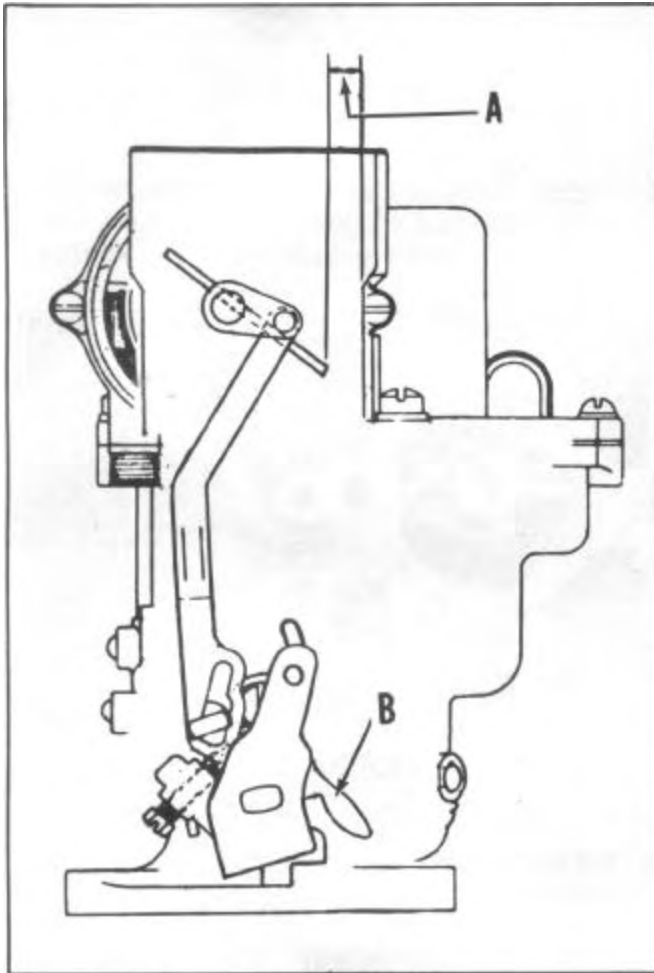

FIGURE 7
2. Open throttle wide open and check between lower edge of choke valve and air horn (A), Figure 7. Clearance should be $7/16"$.
3. Adjust by bending cam (B) on throttle lever using Bending Tool .T-1137.
4. Clearance between lower edge of choke valve and air horn should be $5/8"$, (A), Figure 7.